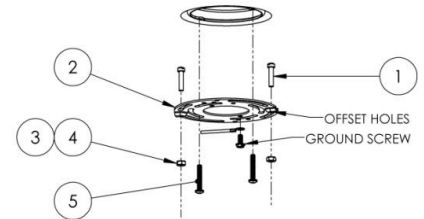

FIG 1
Step 1 – Preparing for installation (Fig 1)
- Install the short screws (1) with lock washers (3) and hex nuts (4) (all provided) into the offset holes of the round mounting bracket (2) as shown in Fig 1 & 2. Be sure the two screws (1) line up with holes in canopy (6) and point away from junction box (not provided).
- Note: The short screws may require adjustment to secure the two ball nuts (7) at the proper location.**
- Install and secure the round mounting bracket assembly to the junction box in ceiling with the longer screws (5) provided (Fig. 1).